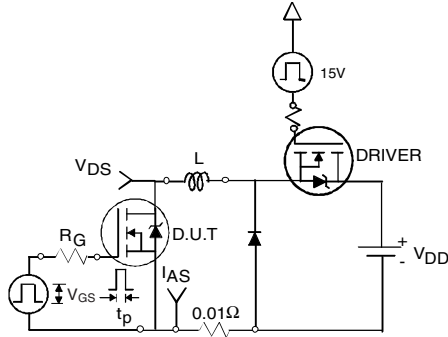

Fig 12a. Unclamped Inductive Test Circuit
3. Equation below based on circuit and waveforms shown in Figures 12a, 12b.
- ② Limited by T_{Jmax} , starting $T_J = 25^\circ C$, $L = 0.52mH$, $R_G = 25\Omega$, $I_{AS} = 30A$, $V_{GS} = 10V$. Part not recommended for use above this value.
- ③ $I_{SD} \leq 30A$, $di/dt \leq 170A/\mu s$, $V_{DD} \leq V_{(BR)DSS}$, $T_J \leq 175^\circ C$.
- ④ Pulse width
- ⑤ C_{oss} eff. is a fixed capacitance that gives the same charging time as C_{oss} while V_{DS} is rising from 0 to 80% V_{DSS} .
- ⑥ Limited by T_{Jmax} , see Fig.12a, 12b, 15, 16 for typical repetitive avalanche performance.
- ⑦ This value determined from sample failure population. 100% tested to this value in production.
- ⑧ When mounted on 1" square PCB (FR-4 or G-10 Material). For recommended footprint and soldering techniques refer to